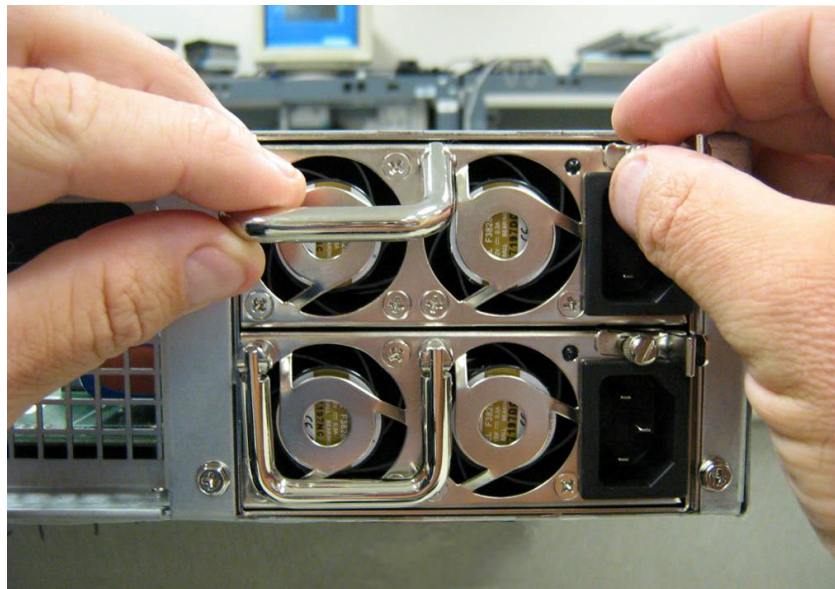

Figure A-20 Push the Locking Lever to the Left and Pull Handle
2. Push the locking lever to the left and pull on the handle as shown in Figure A-20.